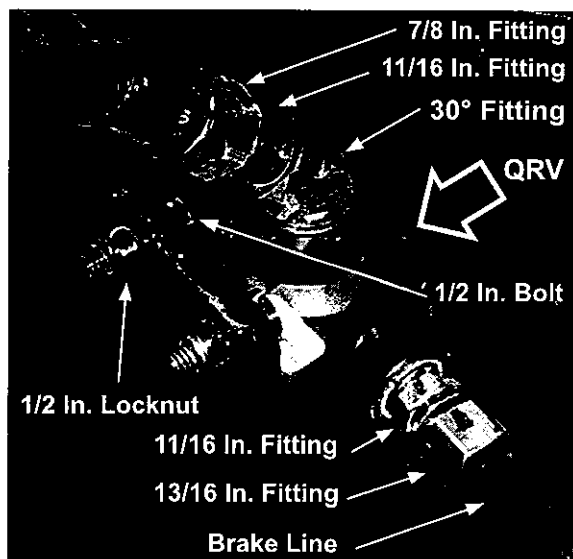

Figure 2, QRV, Tandem Rear Axle/Bracket
2. Locate the QRV on the tandem axle; see QRV Location Guide, page 5 of this Bulletin. Using a 11/16 In. and a 13/16 In. combination wrench, remove the LH and RH brake lines, then using a 11/16 In. combination wrench, remove the fitting from the QRV. (See Figure 2)
3. Using a 7/8 In. and a 3/4 In. combination wrench, remove the air line from the 30° fitting at the top of the QRV, then using a 13/16 In. combination wrench, remove the 30° fitting from the QRV. (See Figure 2)
4. Using a 1/2 In. combination wrench on the bolt and a 1/2 In. socket w/ratchet wrench on the nut, remove the (2) bolts and (2) locknuts holding the QRV to the bracket. (See Figure 2) Remove and inspect the QRV.